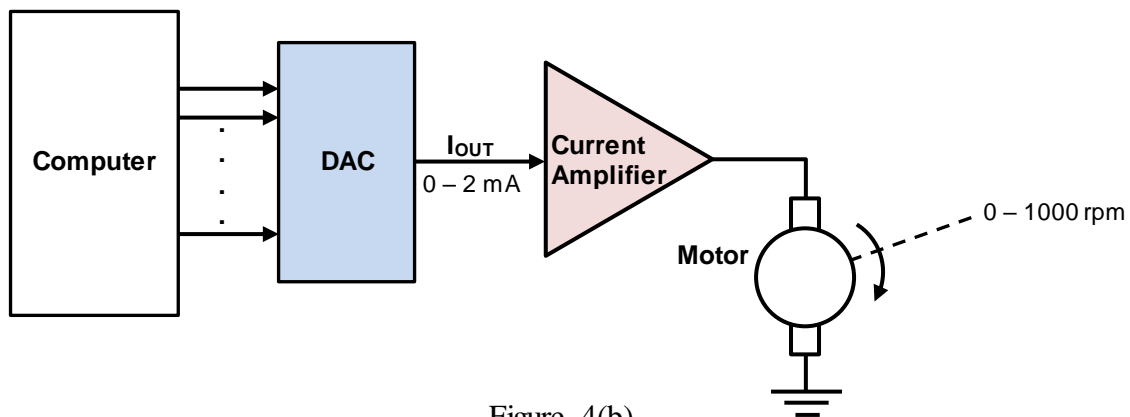

Figure 4(b)
- (b) Figure 4(b) shows a computer controlling the speed of a motor. The 0 to 2mA analog current from the DAC is amplified to produce motor speeds from 0 to 1000 revolutions per minute (rpm).